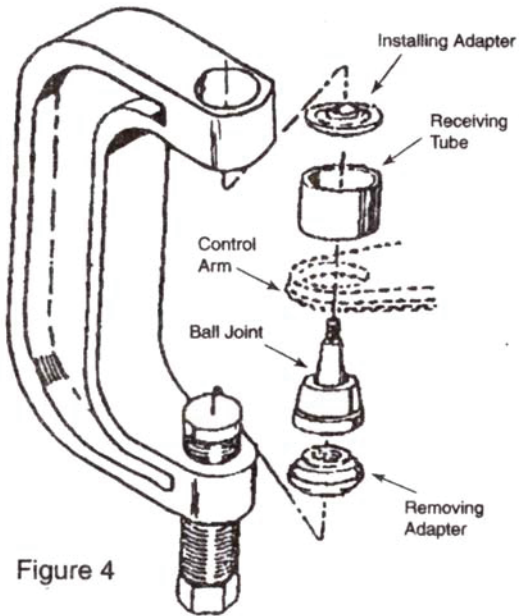

Figure 4
3. Assemble the ball joint press component as shown in Figure 4. Position the receiving tube, and tighten the forcing screw. Check the alignment of all tooling and components, and continue tightening the forcing screw until the ball joint is firmly seated.